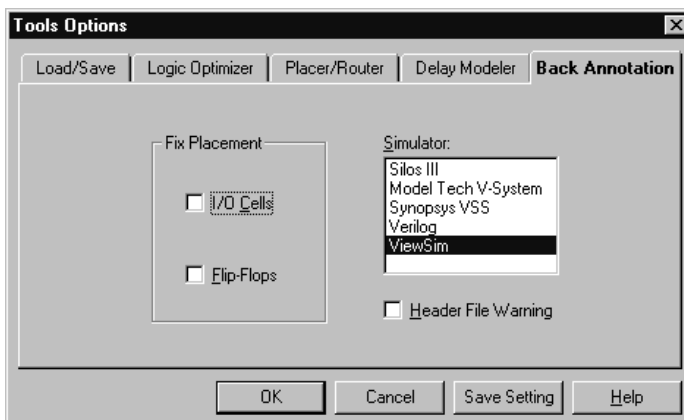

Figure 18 Simulator options for Back-Annotation
- Run the *Back-Annotation Tool* in SpDE (which creates and writes out placement information to the *.atr* file). Amount of fixed placement is controlled by the options in the Back-Annotation options box (Figure 18). Two options are provided in the Fix Placement area: *I/O Cells* and *Flip-Flops*. When no option is checked, placement information for the cells which are currently fixed in the design is written out. When *I/O Cells* is checked all I/O cell locations are written out. When *Flip-Flops* is checked all flip-flop locations are written out.
The Back-Annotation tool produces files to send timing and placement information back to the design entry and simulation tools. A variety of simulation tools are supported for back-annotated simulation. (The simulator with *Warp3* is ViewSim.) The simulator in SpDE can be specified by selecting the *Back Annotation* Tab item from the *Tools Options* menu (see Figure 18).